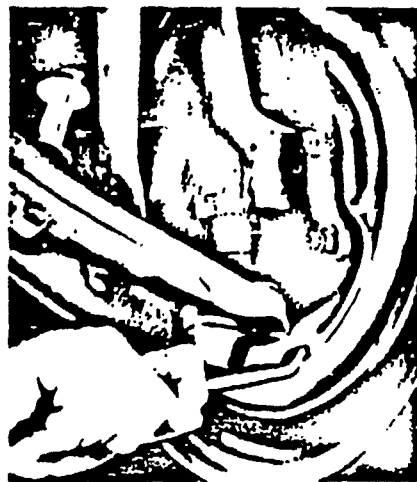

Fig. 13
2. Remove the adjusting hole cover from the backing plate and turn the adjusting screw upward to expand the shoes. Continue until a slight drag is felt when the drum is rotated, (see fig. 13)